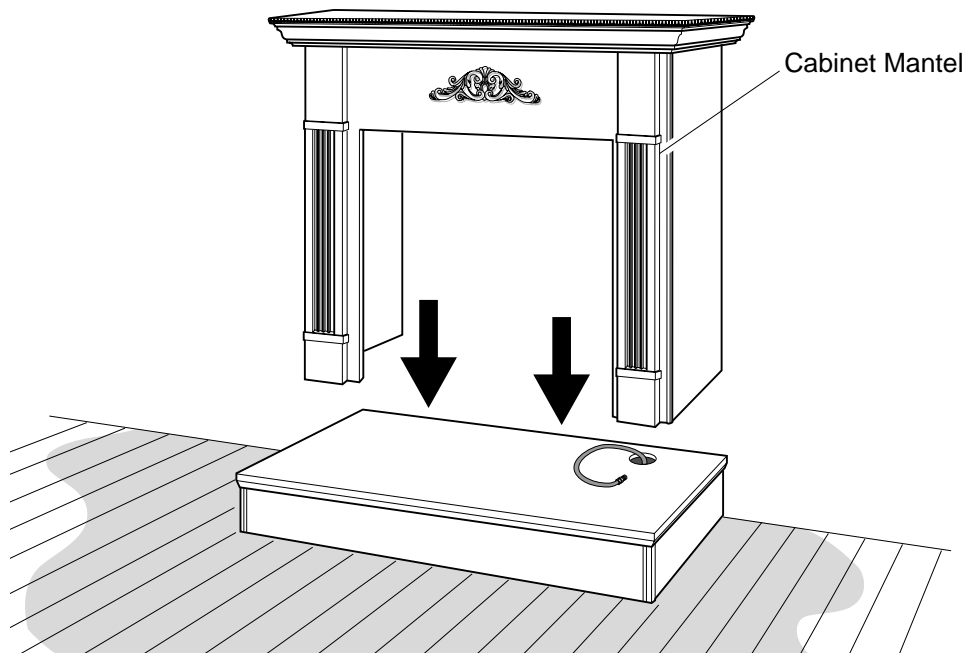

Figure 9 - Installing Cabinet Mantel
5. Center cabinet mantel on hearth base (see Figure 9). Make sure mantel is flush against wall.